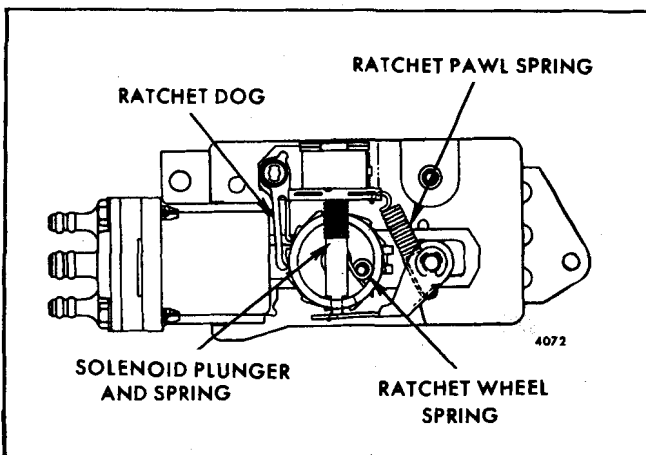

Fig. 2-60-Ratchet Pawl Spring Location
1. Disconnect ratchet pawl spring (see Fig. 2-60 for proper location of spring).